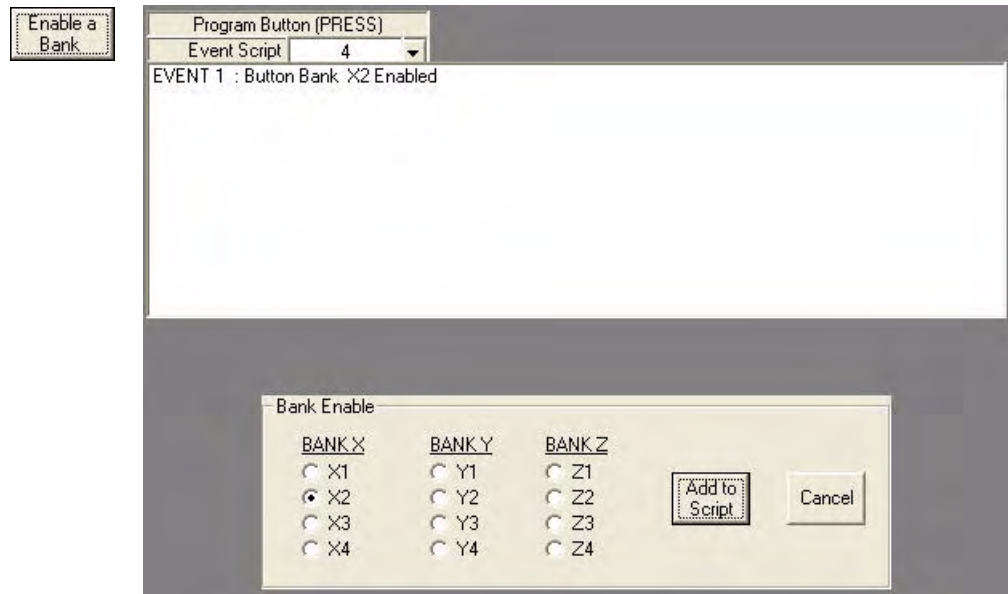

FIG. 80 Button 4 - Button Bank X2 Enabled
16. Click on **Enable a Bank** in the Command Bar; select **X2** and **Add to Script** (FIG. 80).